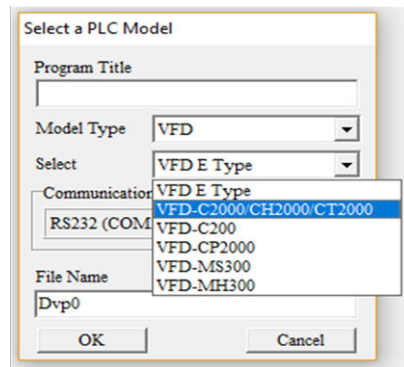

Figure 15-6
Step 4: The "Device settings" window will appear after clicking, see figure 15-6 below. You can now enter the project title and filename, and select the device and communication settings to be used.